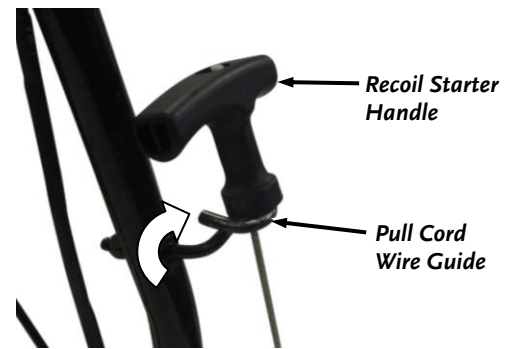

Figure 5
4. Pull the Recoil Starter Handle from the Engine and insert the Rope through the opening in the Pull Cord Wire Guide (**Figure 5**). Twist into position.
5. Remove the temporary insert from Operator Presence Harness Connector (**Figure 5**).